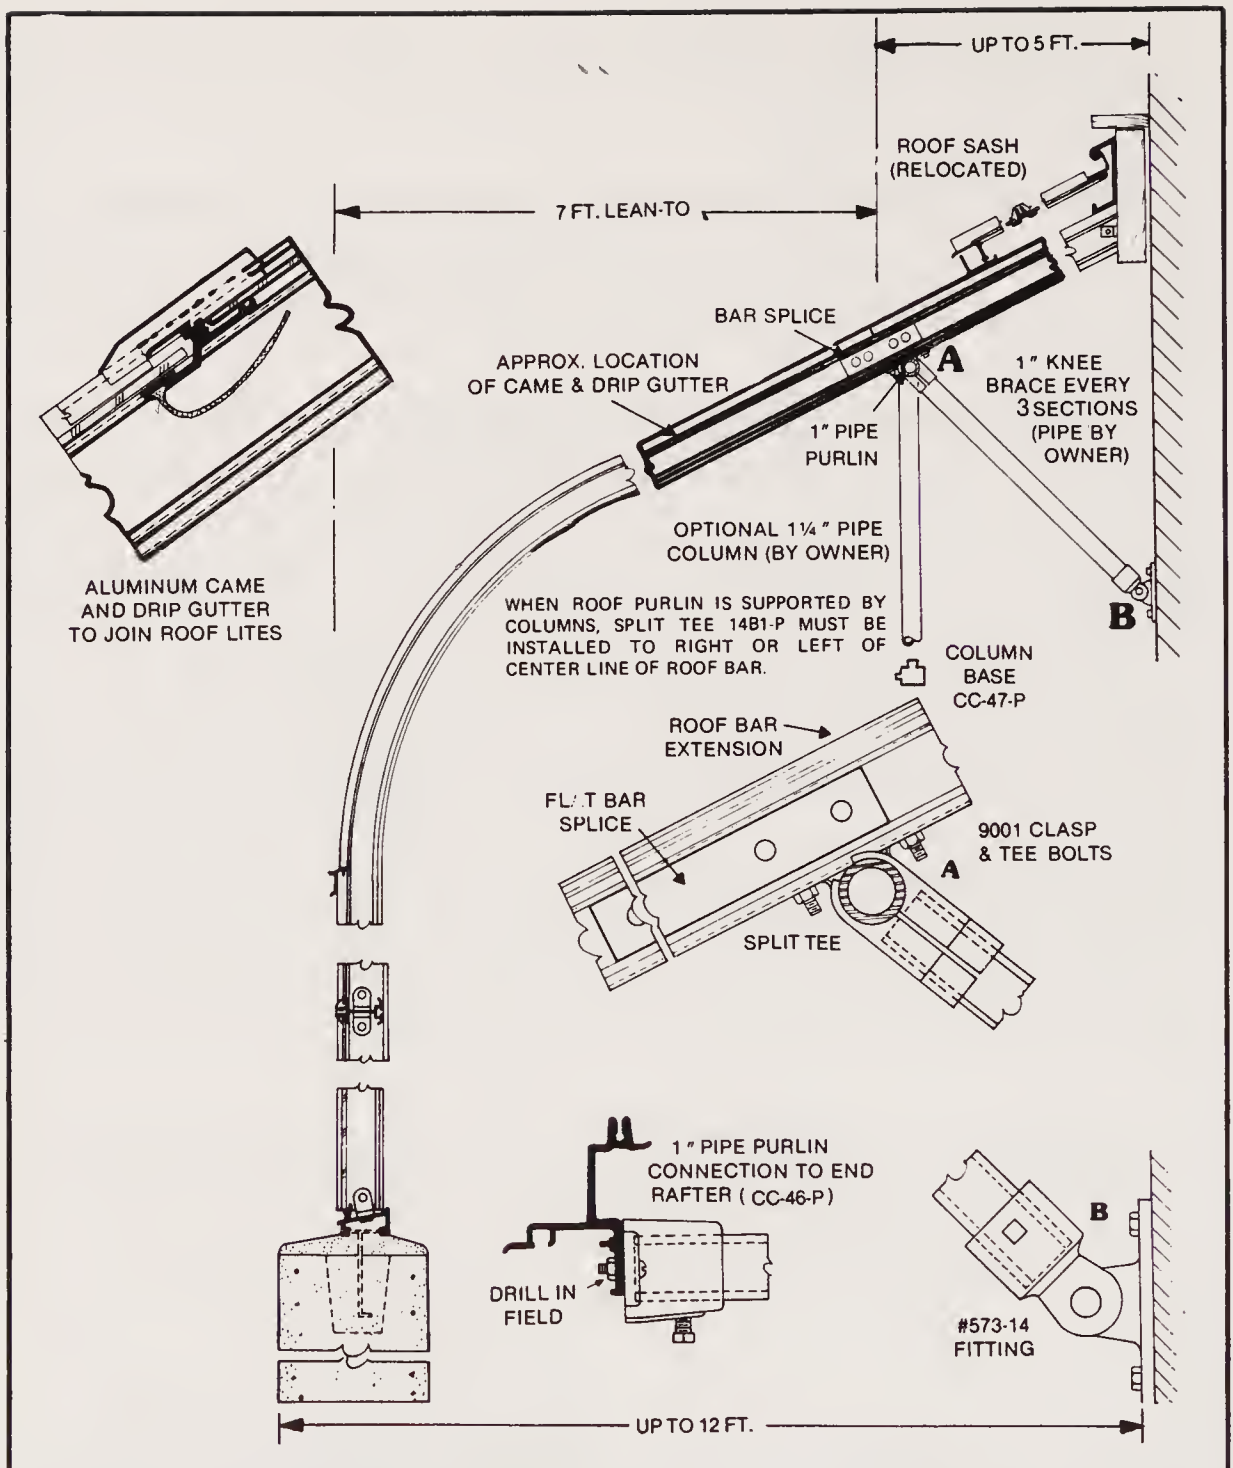
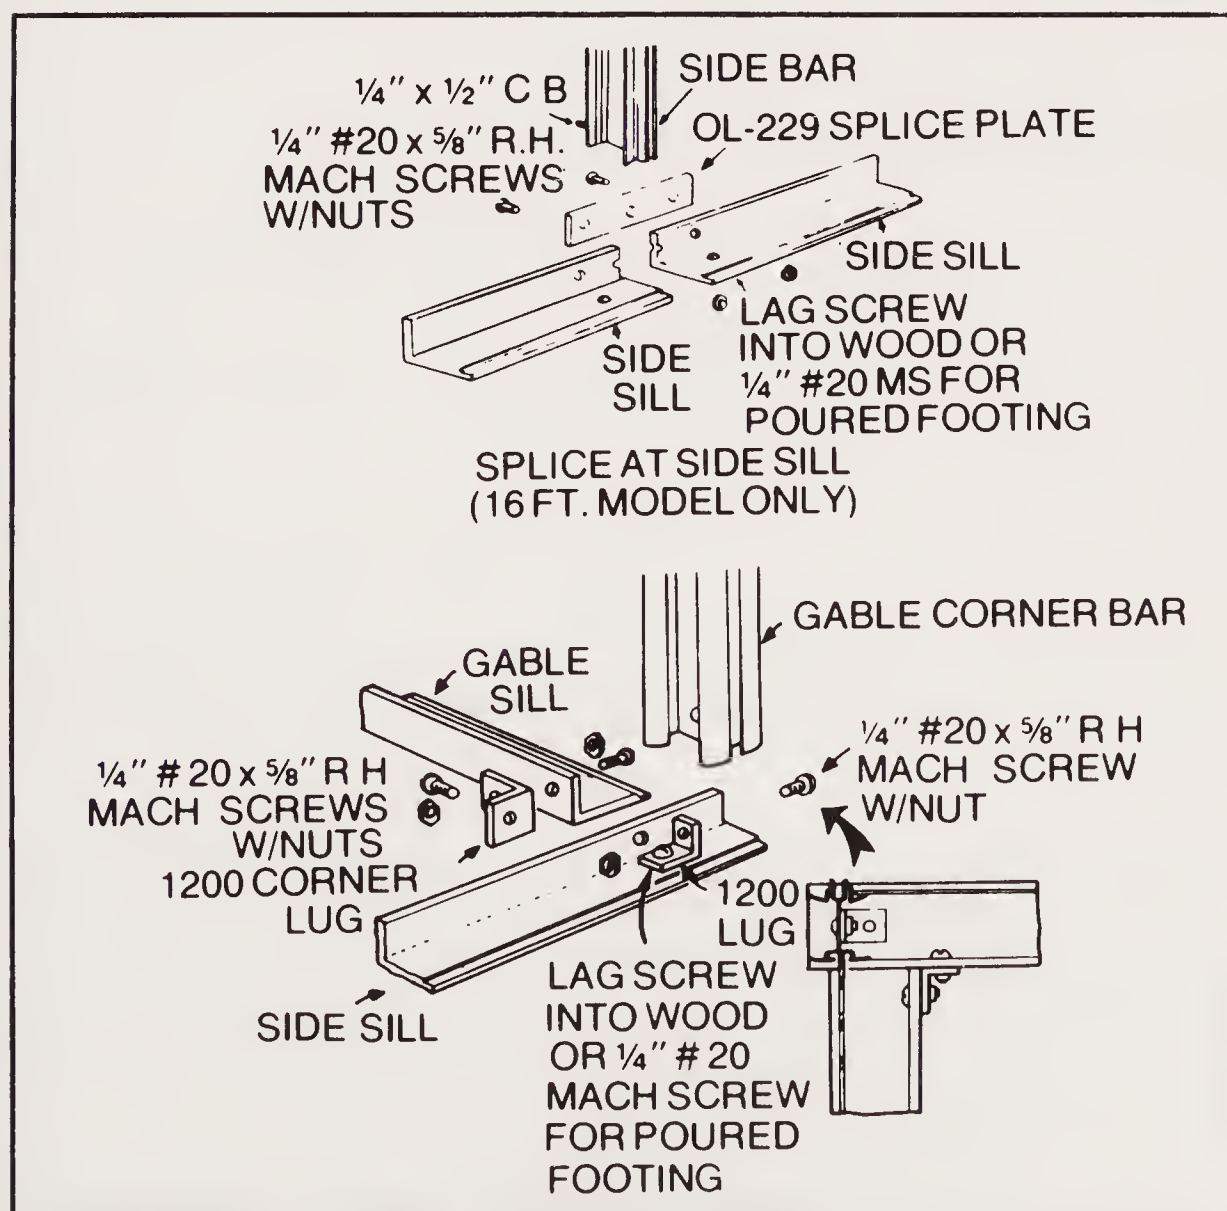

Fig. 2-128. Typical details for extending a 7' lean-to up to 5' on the horizontal dimension (courtesy of Lord & Burnham Co.).
Fig. 2-129. Details showing connection of side sill, gable, sill and gable corner bar (courtesy of Lord & Burnham Co.).
**Lean-To.** Figure 2-128 illustrates the extension of a lean-to model of 7' up to an extension of 5' on the horizontal dimension. Figure 2-129 indicates the connection of a side sill, gable sill and gable corner bar. Attach two ridge lugs to the end of each intermediate roof bar (one on inner side of end bars). Check for level along the roof bars with a taut string end-to-end of ridge joist. To attach the ridge, drill lead holes into a 2 x 6 through holes in ridge and fasten with wood screws.